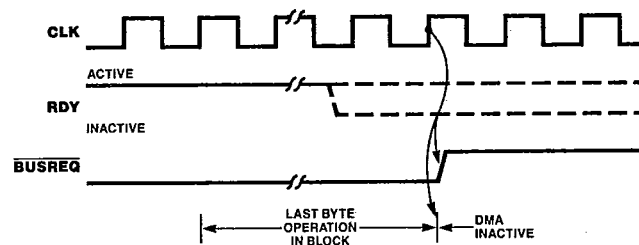

Figure 17. Bus Release at End of Block (Burst and Continuous Modes)
**Bus Release at End of Block.** In Burst and Continuous modes, an end of block causes  $\overline{\text{BUSREQ}}$  to go High usually on the same rising edge of CLK in which the DMA completes the transfer of the data block (Figure 17). The last byte in the block is transferred even if RDY goes inactive before completion of the last byte transfer.